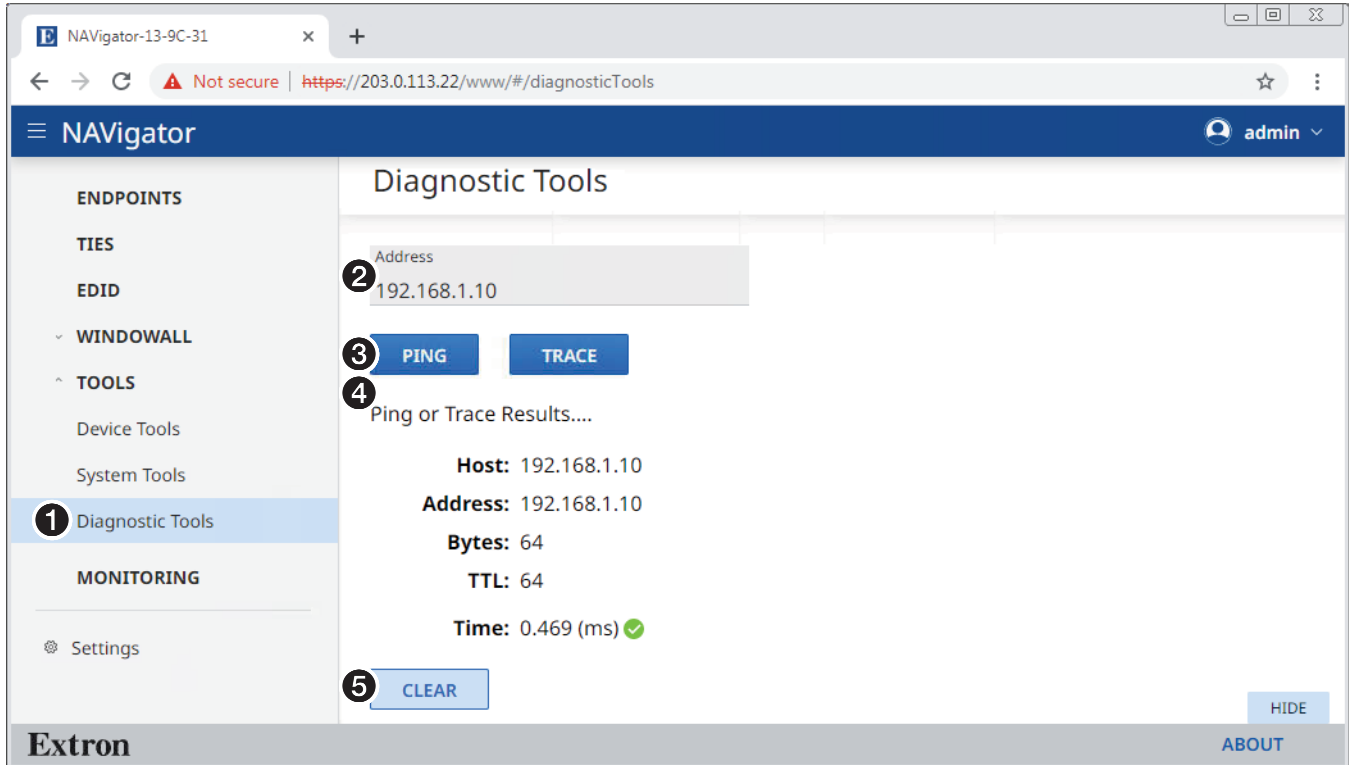

Figure 18. Diagnostic Tools Page, Ping Results Shown
The Diagnostic Tools page (see figure 18) provides tools that allow you to troubleshoot the connection to other units on the NAV network. Access the page as follows:
- **Ping** — Use this tool to test the connection to another unit on the network. Figure 18, ❹ shows the typical results of a Ping diagnostic.